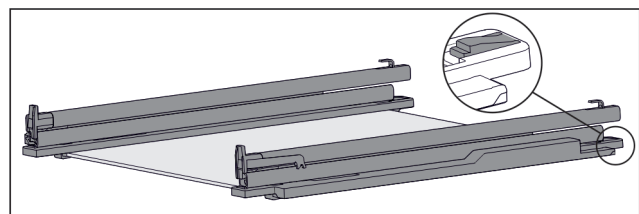

Fig. 111 Glass shelf with rails and retaining parts
- ▶ Press down retaining part at the rear (see Fig. 111) and simultaneously push rail back.